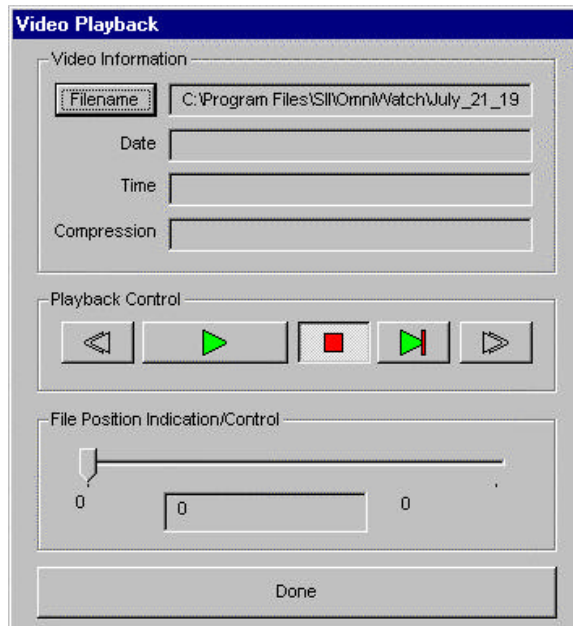

Figure 3.13 VCR Functions/Playback Video Window
3. The “Video Playback” window (Ref to Fig 3.13) appears. This window provides “buttons” (similar to those on a VCR) for controlling and reviewing the data. The